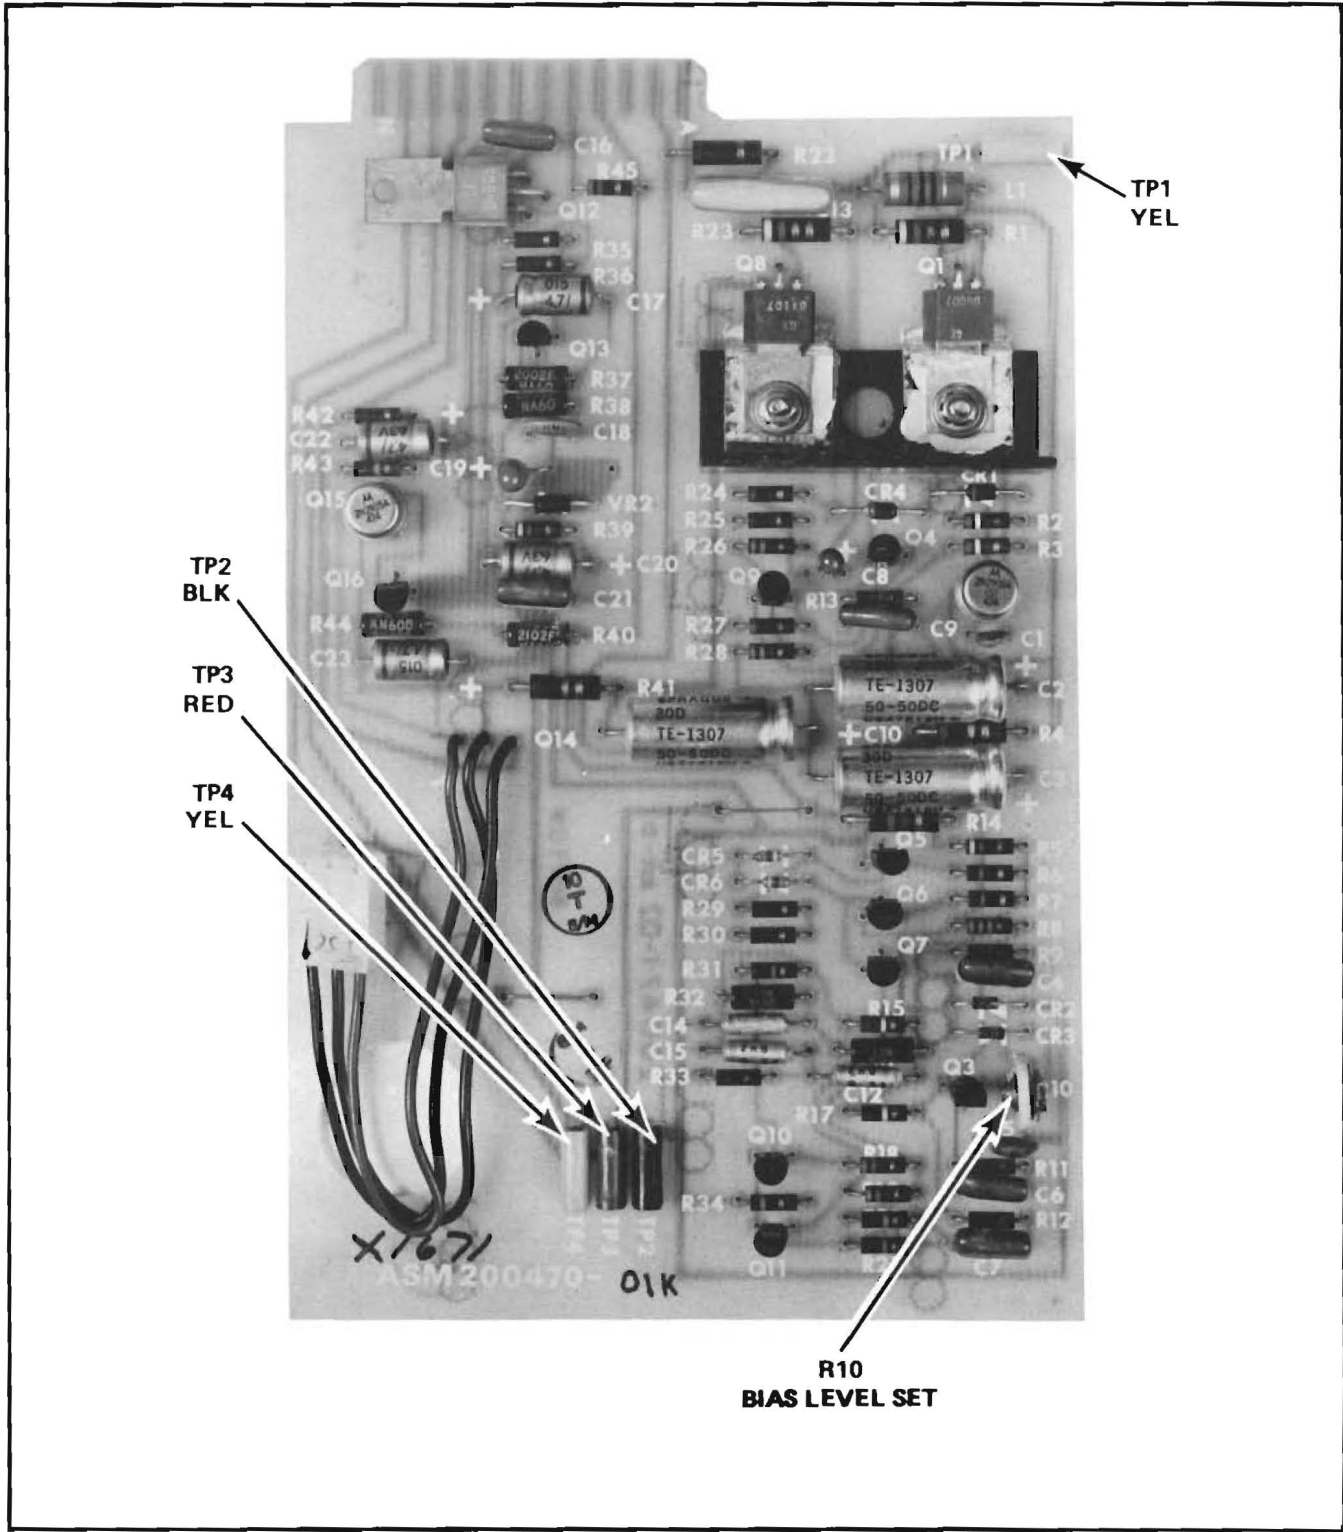

Figure 7-15. Regulator, Bias Oscillator and Amplifier PWA
- A. Connect oscilloscope to the yellow test point (TP1) on the regulator, bias oscillator, and amplifier PWA (Figure 7-15).